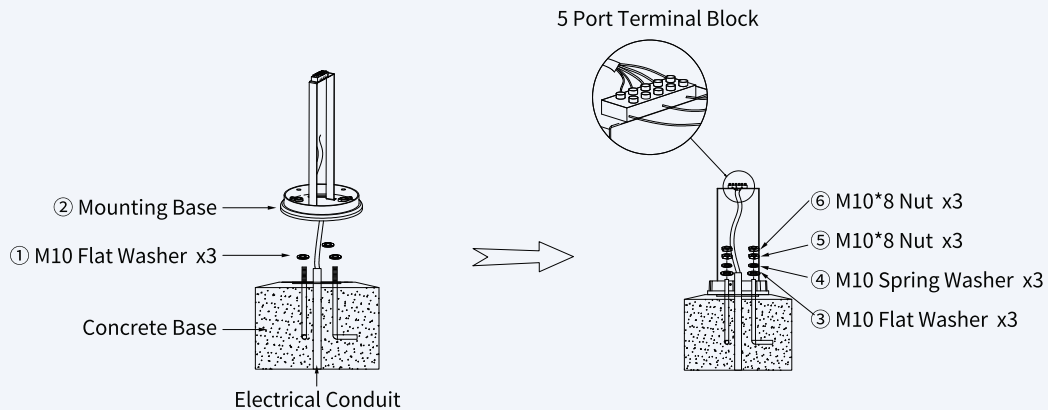

Fig 7
8. Place bollard mounting base over anchor bolts, and tighten M10 flat washer, M10 spring washer & M10*8 nuts **Fig. 7** securing the mounting base to the foundation.